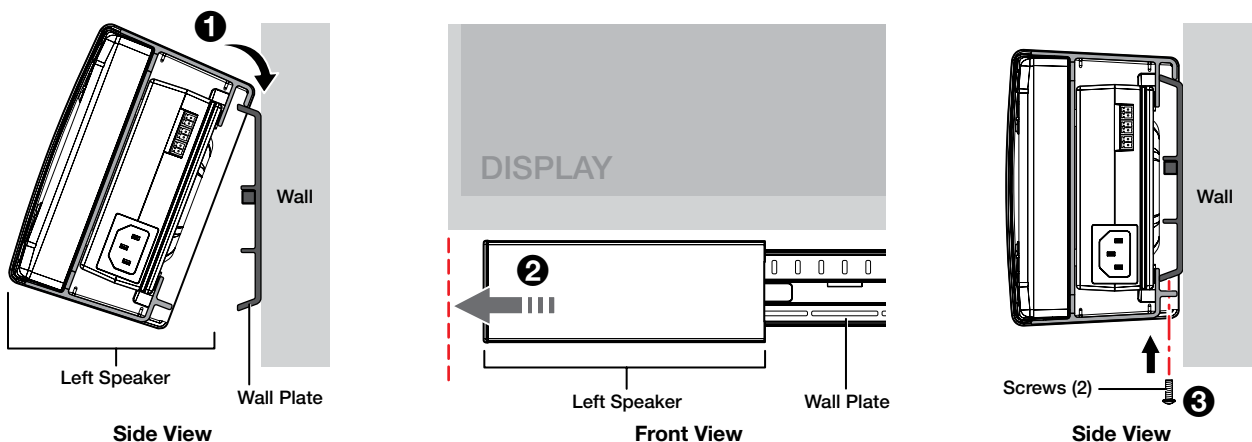

Figure 11. Attaching the Left Speaker to the Wall Plate
1. Hook the top clasp edge of the left speaker assembly over the top rail (see figure 11, ①) of the wall plate and slide it to left end of the wall plate (②) so that the left end of the speaker assembly is aligned with the left end of the display.